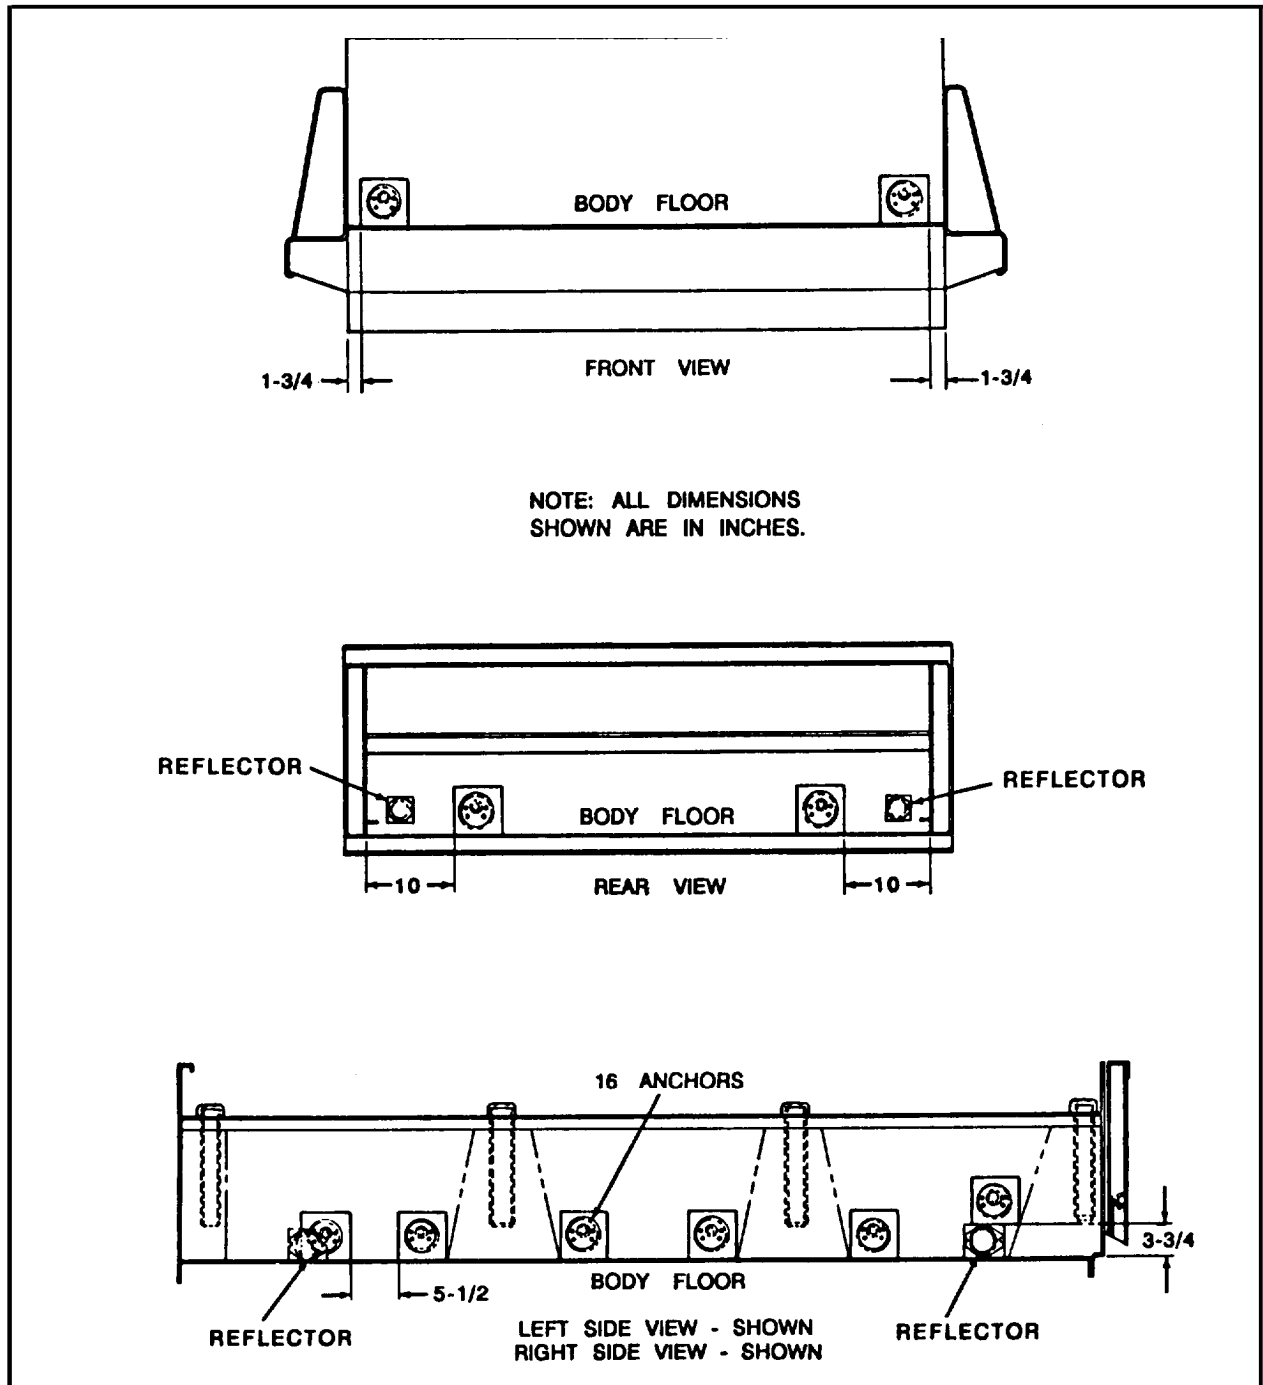

Figure 10. Location of anchors on M342, M342A1, M342A2 trucks
(1) Using template provided in kit, scribe location of six anchors on left side, six on right side, two each on front panel and tailgate, as shown in figure 10.